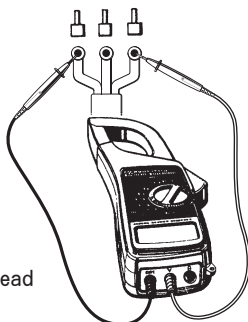

Fig.7
- (4) Connect the clips of the test leads to the circuit under test. Take the reading on the digital display. (Fig. 7)